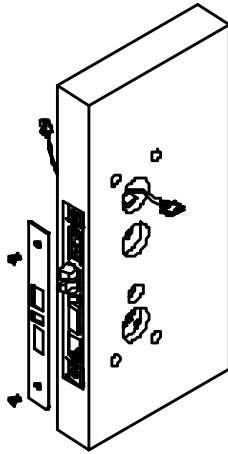

Figure 9
9) install the plaque. Show as figure 9.